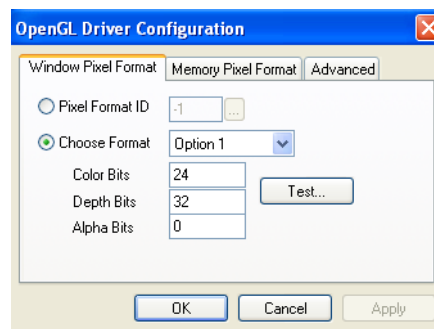

Figure 5-78: *OpenGL Driver Configuration* dialog box
4. In the *OpenGL Driver Configuration* dialog box (figure 5-78), select Pixel Format ID and enter this number.